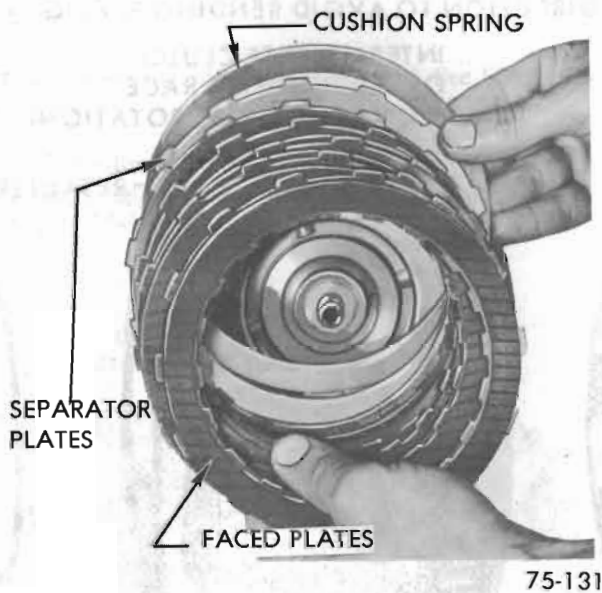

Figure 75-185
2. Remove five (5) forward clutch housing faced plates, five (5) steel plates and cushion spring. See Figure 75-185.
5. Lubricate with transmission fluid and install cushion spring, five (5) faced plates and five (5) steel separator plates, starting with the cushion spring and alternating steel and faced. See Figure 75-185.